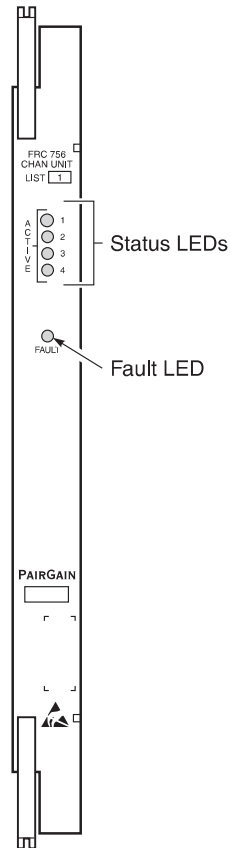

Figure 1. FRC-756 ISDN Channel Unit (Front Panel)
1.1 The PairGain® PG-Flex FRC-756 List 1 ISDN Channel Unit (Figure 1) provides an interface to the North American Integrated Services Digital Network (ISDN) Basic Access services through a PG-Flex Remote Terminal (RT). The FRC-756 accommodates four ISDN channels and provides ISDN Line Unit Line Termination (LULT) at the RT. The FRC-756 installs into a single slot of an RT Enclosure.
2.1 Figure 1 shows the FRC-756 front panel. Table 1 lists the different states and indications for the FRC-756 front panel LEDs.